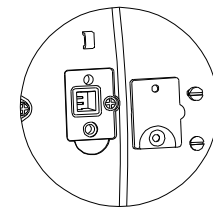

Figure 4-2. LFT pins.
2. Remove the Security Cover under the scale to access the two pins located in a slot (see figure 4-2). Short these pins (a slotted screwdriver may be used), while powering the scale **ON**. The scale will perform the start-up procedure, and then the display will show the current status [LFT OFF] (LFT OFF, unlocked) or [LFT ON] (LFT ON, locked); press the 'No' key to change this setting, or press the 'Yes' key to confirm it.